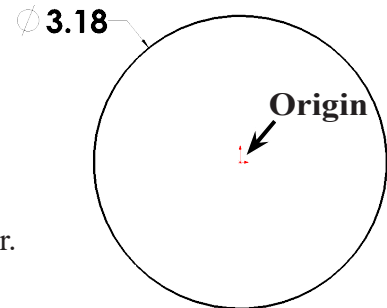

Fig. 2
Step 3. Click **Circle**  (S) on the Sketch toolbar.
Step 4. Sketch a circle starting at the Origin , **Fig. 2**.
Step 5. Click **Smart Dimension**  (S) on the Sketch toolbar.
Step 6. Dimension circle **diameter 3.18**, **Fig. 2**.